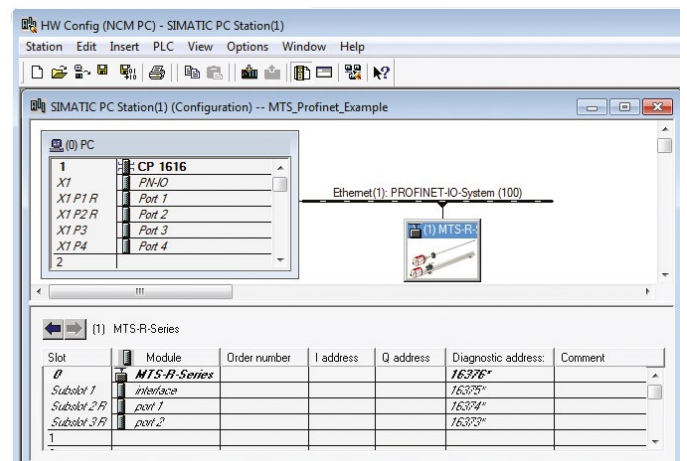

Fig. 63: Add sensor to the network (source: Siemens)
2. Select for U402 profile the file "MTS R-Series firmware version 1.0". Drag and drop this file from the directory into the network (dashed line). The sensor has been added to the network (Fig. 63).